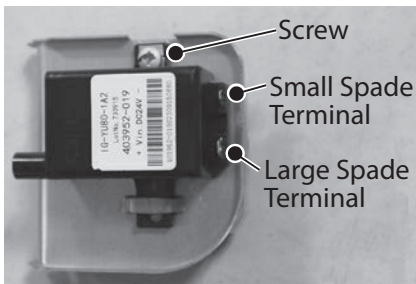

Figure 33 - Disconnecting ignitor assembly
- 9** Disconnect the two spade terminal connections at the back of ignitor assembly. See Figure 33.